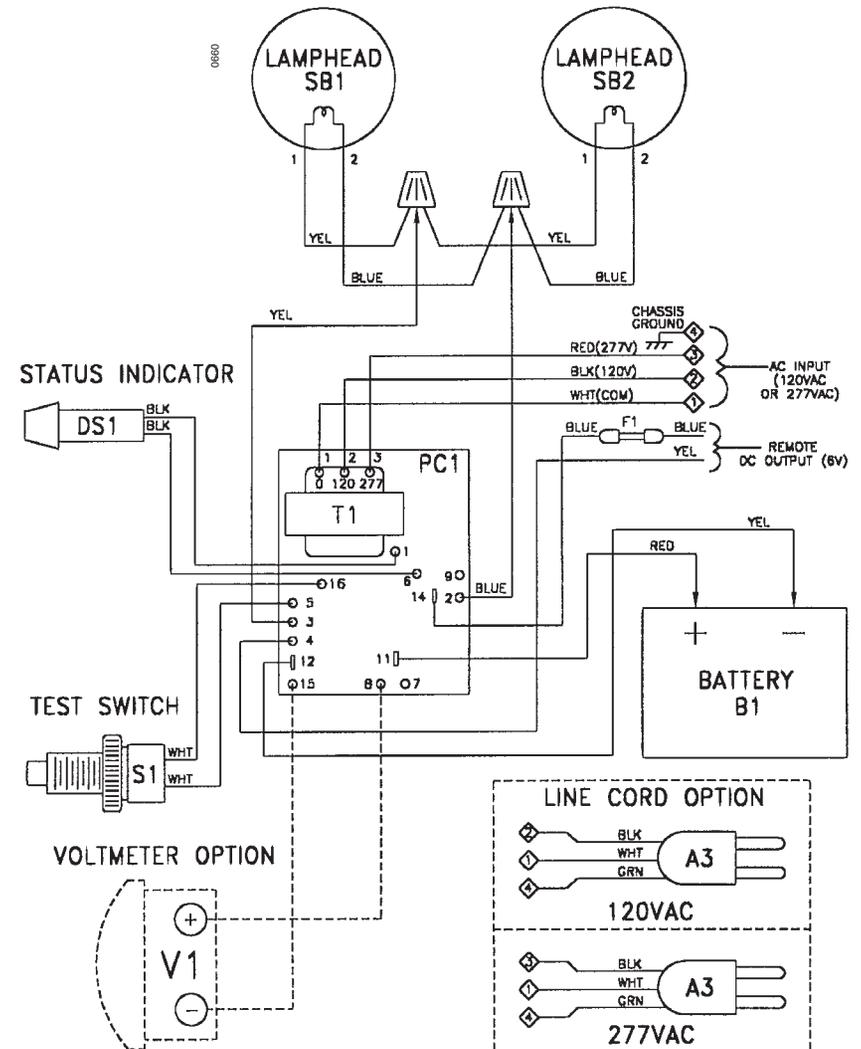

Figure 5
- Important:** Cap off unused transformer lead(s)* and connect ground conductor to green screw located at the top rear of insert. See Fig. 2, Fig. 4 and Fig. 5.
All Other Models: Connect blue leads to OUTPUT (+) lamphead pins and yellow leads to OUTPUT (-) lamphead pins. See callout ③ in Fig. 2 and Fig. 5.
All Other Models: Connect one half of remote load across OUTPUT (+) 1 and OUTPUT (-) 1 lamphead terminals and the other half across OUTPUT (+) 2 and OUTPUT (-) 2 lamphead terminals on distribution board. See callout ④ in Fig. 2 and Fig. 5. Each set of remote output terminals on the distribution board is fused for one half of the rated unit capacity. Refer to unit model label for maximum wattage of unit.